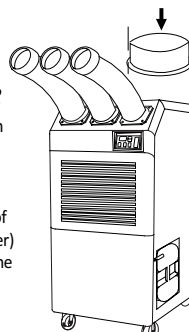

Figure 23
3. Use screws (enclosed inside of box with the top fan exhaust flange) to install the top fan exhaust flange on air conditioner as shown in Figure 23.